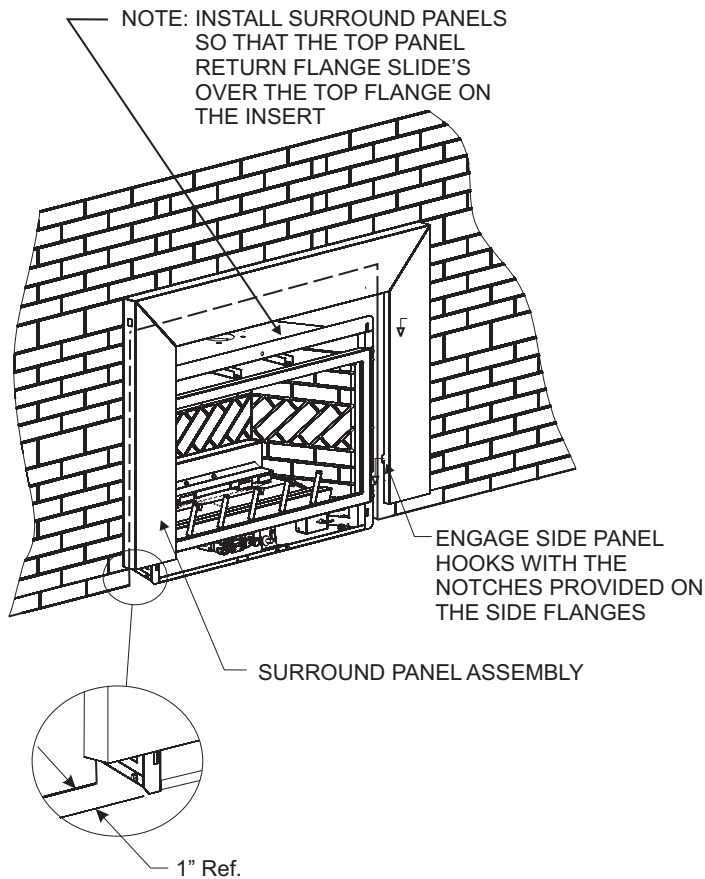

Figure 22
2. Attach the flag terminal ends to the "TH/TP" and "TH" terminals on the front terminal block of the gas valve. **See Figure 22.**